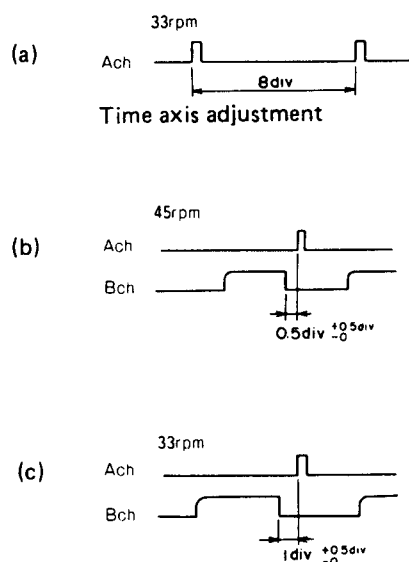

Fig. 8-2 Motor Operation Adjustment Waveforms
4. Set the turntable to 33 rpm and adjust VR1 (33 rpm) until the relation between the Ach and Bch waveforms are as shown in Fig. 8-2 (c).